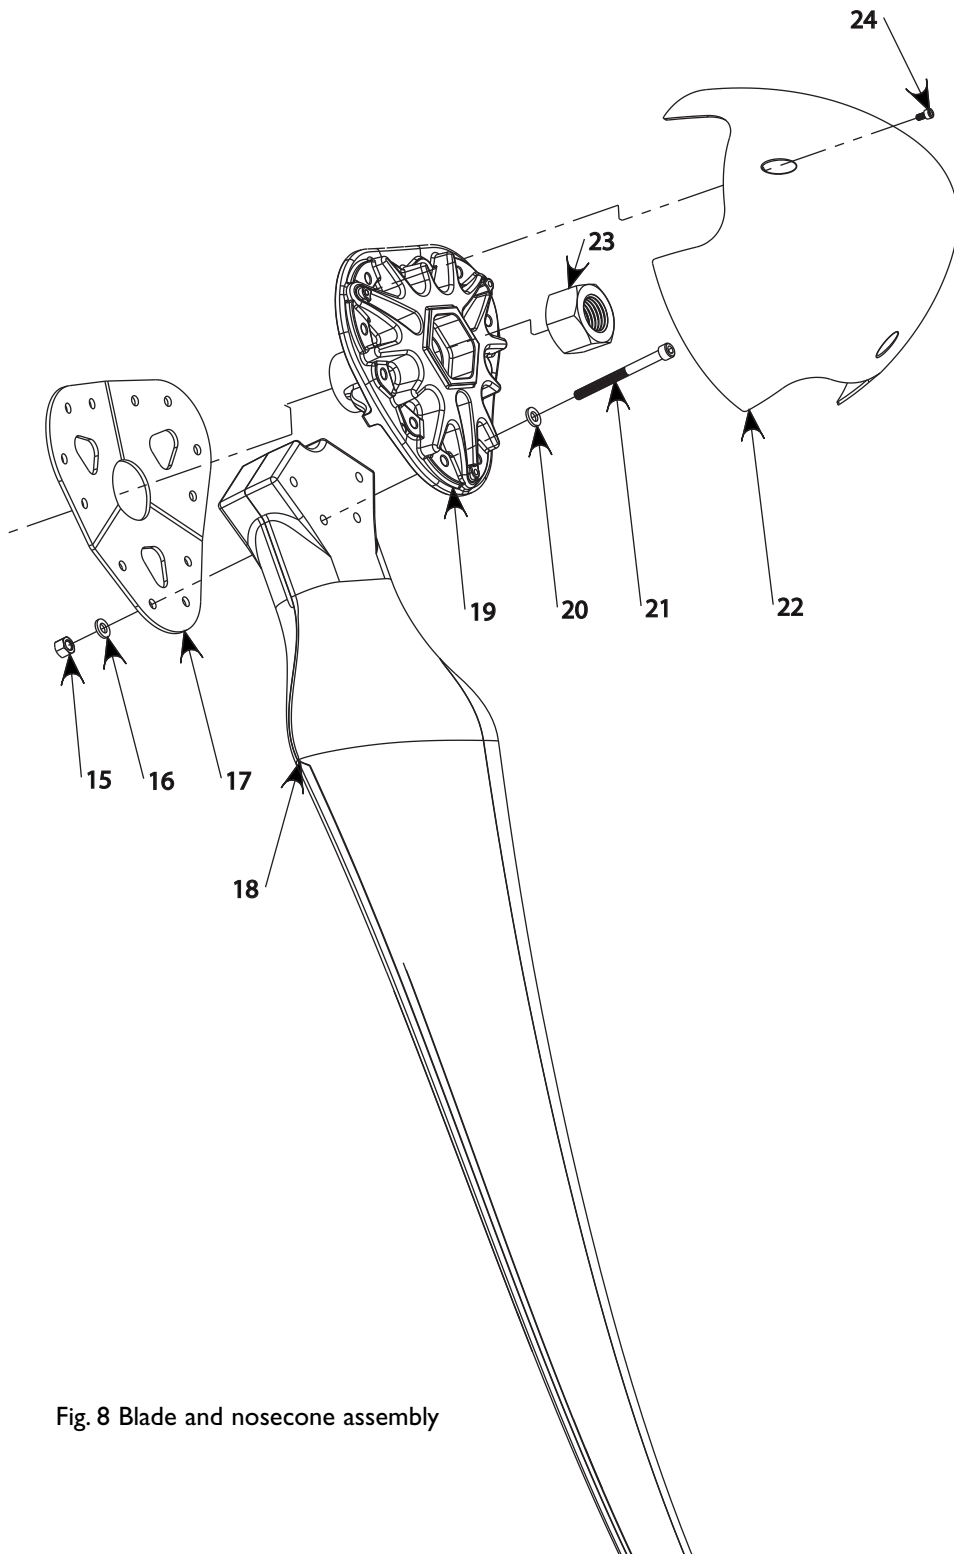

Fig. 8 Blade and nosecone assembly
Refer to Fig. 8 (page 17) for visual aid.
- Place a blade between the blade hub and blade mounting plate. Refer to Fig. 8 (page 17) for proper orientation. **Note:** the blades may only be installed in one position due to the “triangular” boss cast into one side of the blade root (base).